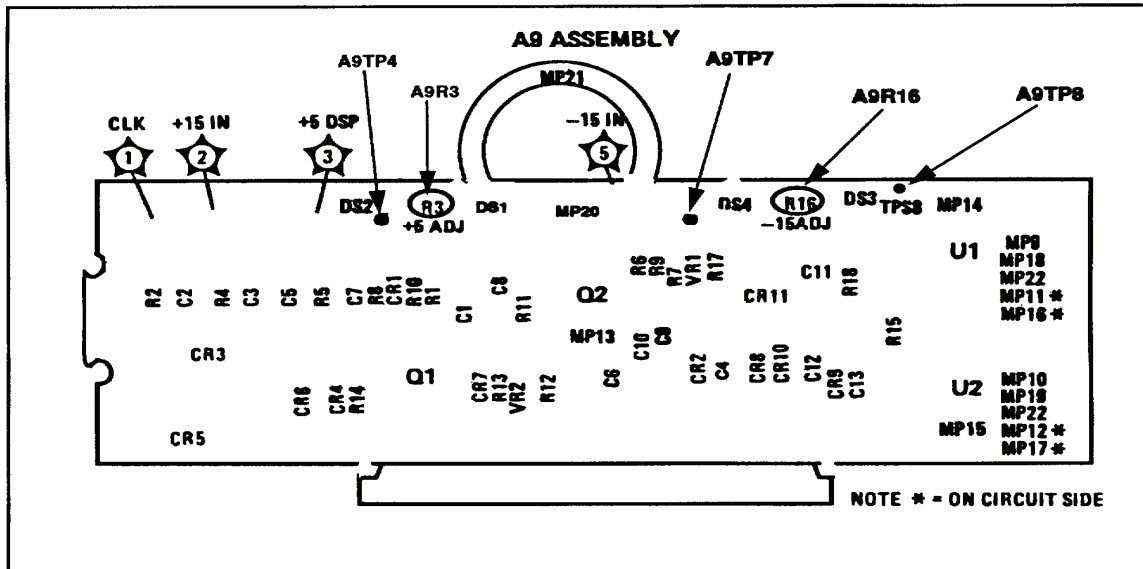

Figure 5. Power supply component location.
(1) Press TI **LINE** switch to **OFF** position and remove TI top and bottom covers.
(2) Loosen screws that secure A3 CPU assembly.
(3) Press **LINE** switch to **ON** position and allow TI to warm-up for 30 minutes before proceeding to (4) below.
(4) Connect multimeter negative lead to chassis ground and then connect multimeter positive lead to A9TP8 (fig. 5). Multimeter will indicate between 14.25 and 15.75 V dc. Record multimeter indication.
(5) Connect multimeter positive lead to A9TP7 (fig. 5). If multimeter does not indicate within  $\pm 0.05$  V dc of value recorded in (4) above, perform **b** (1) below.
(6) Connect multimeter positive lead to A9TP4 (fig. 5). If multimeter does not indicate between 4.95 and 5.05 V dc, perform **b** (2) below.
(7) Press **LINE** switch to **OFF** position.
(8) Tighten screws that secure A3 CPU assembly.
(9) Replace TI top and bottom covers.
(10) Press **LINE** switch to **ON** position.
(1) Adjust A9R16 (fig. 5) for a digital multimeter indication within  $\pm 0.05$  V dc of value recorded in (4) above (R).
(2) Adjust A9R3 (fig. 5) for a digital multimeter indication between 4.95 and 5.05 V dc (R).